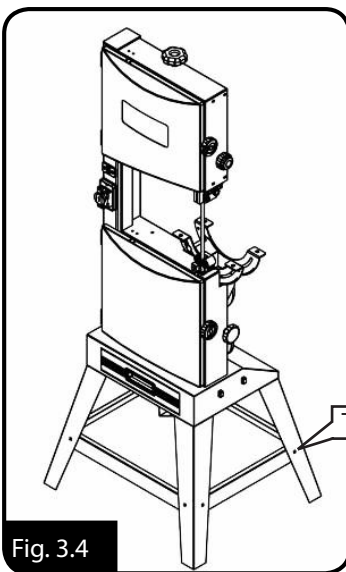

Fig. 3.4
- ❑ Stand the band saw on a level ground, then tighten all bolts and nuts. (Fig. 3.4)